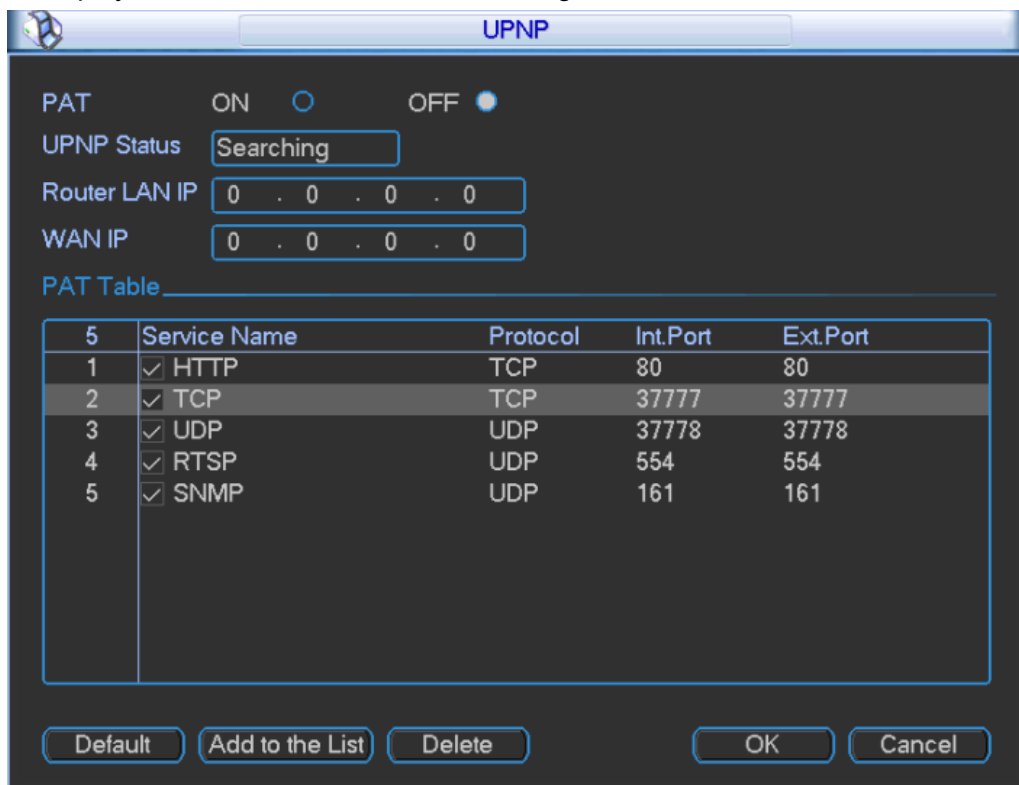

Figure 3-43
Step 1 In main menu, select “Setup> Network> Network Setup > UPNP”, and the system displays “UPNP” interface, as shown in Figure 3-43.